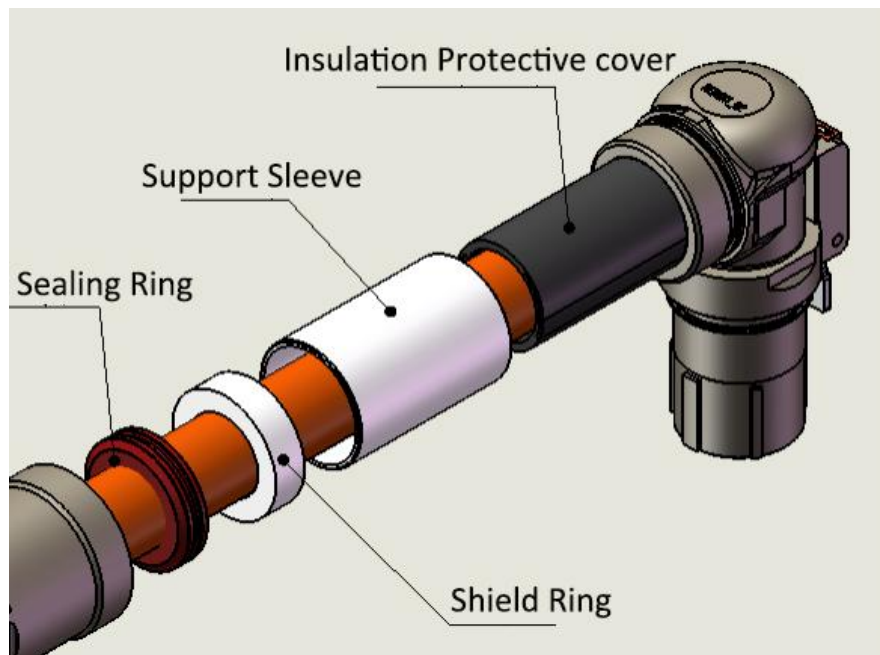

Figure 13
3.2.3. Insulation protective cover 1 and insulation protective cover 2 are installed on the terminal, as shown in Fig.13.